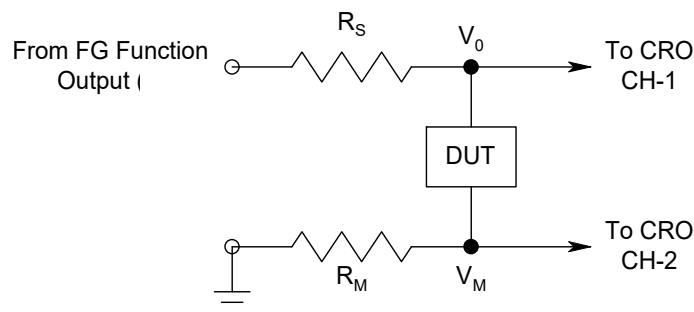

Fig. 2.1 Test Circuit for Part C. Values of R_S and R_M to be used in each part are given in Table 2.1.
For a two terminal device, the circuit of Fig.2.1 can be used to obtain its I-V characteristics. Note that the resistance R_M is used to measure the current flowing through the device under test (DUT). Also note that while the actual voltage drop across the DUT should be measured to obtain its I-V characteristics, here what is measured (V_0) is the voltage drop across the series combination of the DUT and the current measuring resistance R_M . For this voltage to be a good approximation of the actual voltage dropped across the DUT, the value of R_M should be chosen such that the voltage drop across it (V_M) is negligible as compared to the drop across the DUT, or, in other words, V_0 must be much larger than V_M (by about 100 times or greater).
1. Set up the circuit shown in Fig.2.1. The corresponding values of R_S and R_M to be used are given in Table 2.1. First choose a 10 k Ω resistor as the DUT.